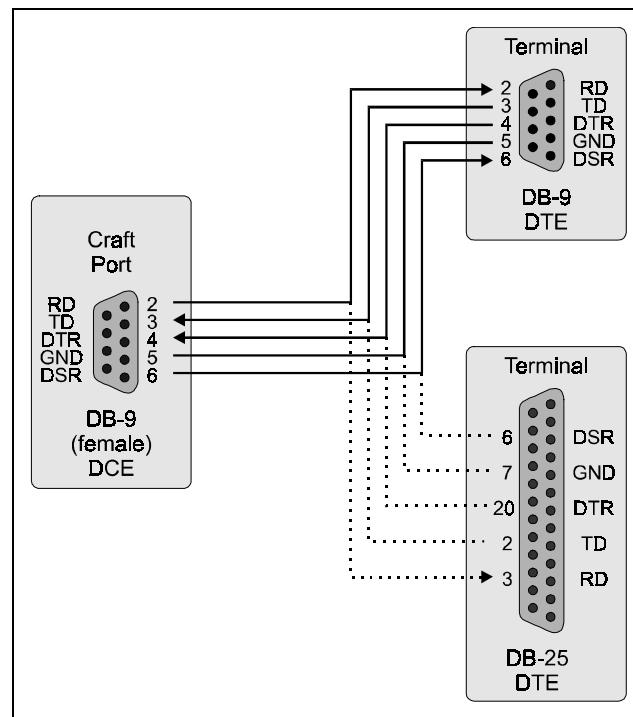

Figure 39
The front panel (craft port) RS-232 connector is a DB-9 female connector wired as a Data Communication Equipment (DCE) interface. The signals and pin assignments for this connector are listed in Table 26. Connections between the RS-232 craft port and a VT-100 terminal are shown in Figure 39 for both DB-9 and DB-25 connectors. Although a cable can be used that connects only the Transmit Data (TD), Receive Data (RD), and Ground (GND) signals, the craft port will not automatically log off when the terminal is unplugged. Using a cable that also connects the Data Terminal Ready (DTR) signal will ensure automatic log off when the terminal is unplugged.